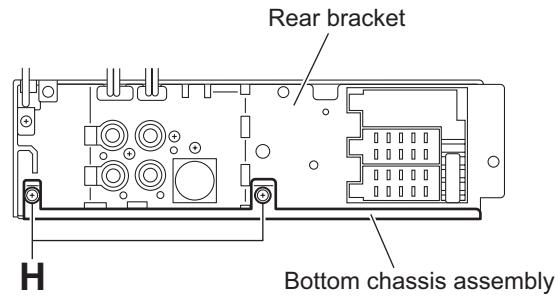

Fig.11
(See Figs.11 and 12)
- From the rear side of the bottom chassis assembly, remove the two screws **H** attaching the rear bracket to the bottom chassis assembly. (See Fig.11.)